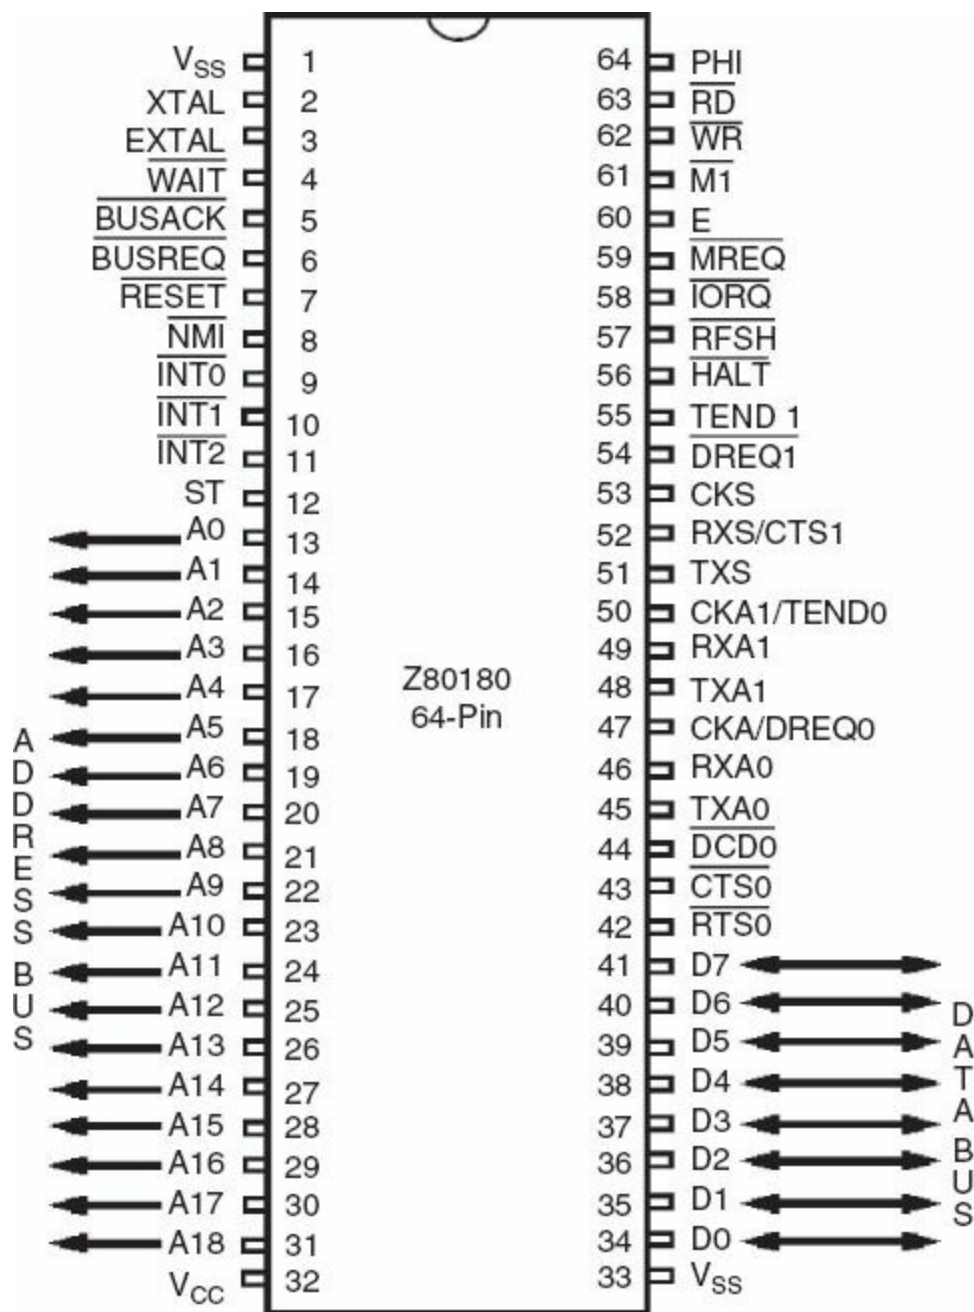

FIGURE 9.9 Zilog Z-80180, 8-bit microprocessor. (Courtesy of Zilog Corp.)
Serial input and output have been added as new features. Also, internal circuits that allow a crystal to be attached to provide clock pulses for synchronization have been added. The use of the internal crystal did not require a whole oscillator circuit to be built outside the chip. Special interrupt and memory management circuits have been added as well. In Fig. 9.9, data and address buses are identified with arrows showing signal flow.
The data bus in Fig 9.9 also shows the eight pins labeled  $D_0$  through  $D_7$  and double-ended arrows. These arrows identify the fact that an 8-bit number can be inputted to the microprocessor through the eight pins. Or, conversely the processor can output an 8-bit number through the same pins. As these pins take turns sending or receiving signals, other pins, such as Read (RD) and Write (WR), identify the direction data is sent and received.